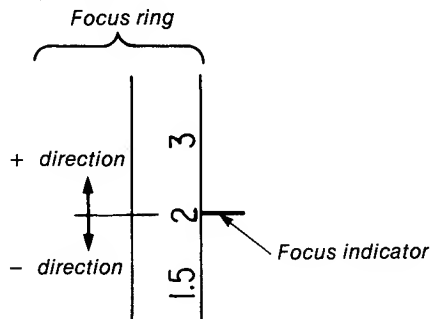

Fig. 7-44.
- 5) Move the Z frame forward and backward (A ↔ B direction) with the Z frame securing screw so that the focus ring stops at the center of indicator "2". (Figs. 7-44 and 7-45)
- 9) Confirm that the stopping position of the indicator of focus ring is within range of  $\pm 10\text{mm}$  from the center of "2". (Fig. 7-44)